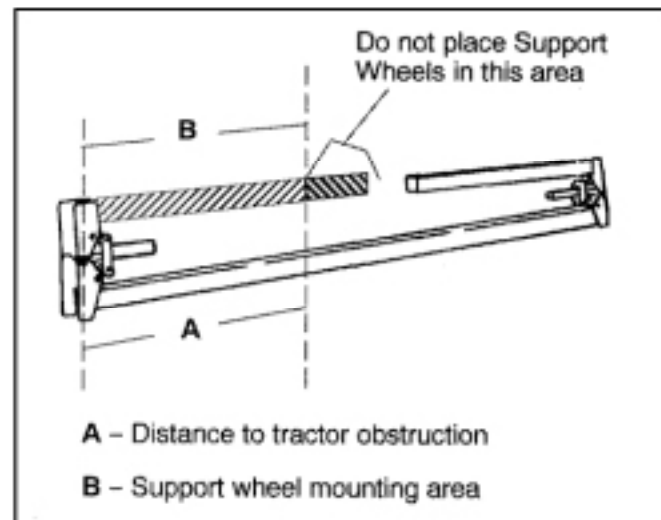

Figure 36 Measuring for Support Wheels
(Figure 36)
3. **DO NOT** position support wheels beyond this point, as shown in shaded area in Figure 36.